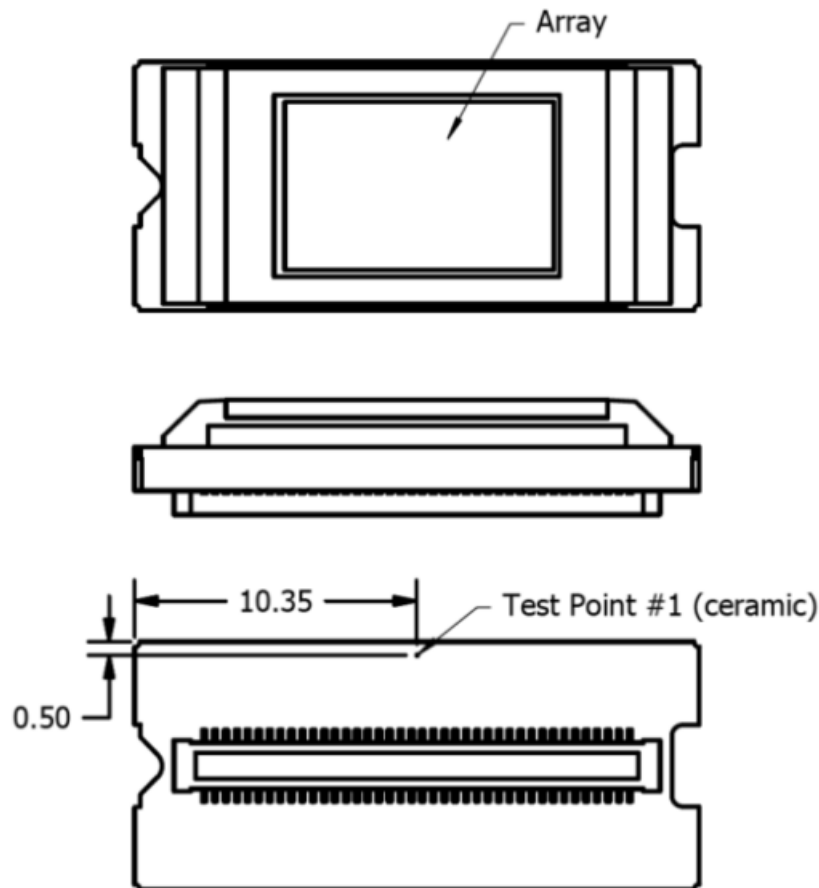
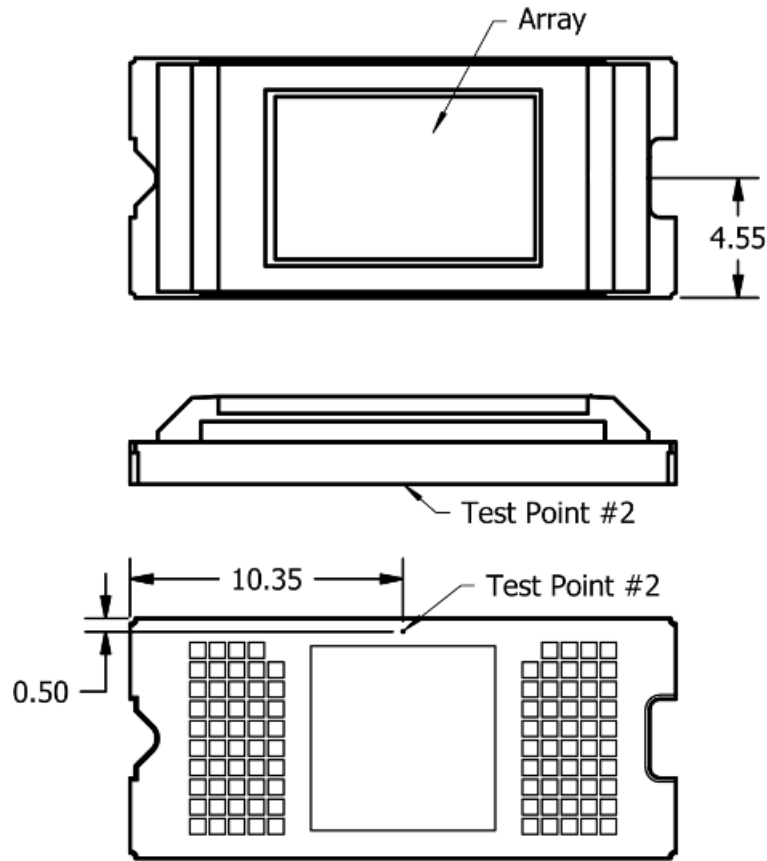

Figure 16. Thermal Test Point Location for FQE
Figure 17. Thermal Test Point Location for FQD
The DMD is designed to conduct the absorbed and dissipated heat back to the Series FQE or FQD package where it can be removed by an appropriate system thermal management. The system thermal management must be capable of maintaining the package within the specified operational temperatures at the Thermal Test Point location, see Figure 16 or Figure 17. The total heat load on the DMD is typically driven by the incident light absorbed by the active area; although other contributions can include light energy absorbed by the window aperture, electrical power dissipation of the array, and/or parasitic heating.
The temperature of the DMD case can be measured directly. For consistency, a thermal test point location is defined, as shown in Figure 16 and Figure 17.
- Thermal test point location (See Test Point #1 in Figure 16 for FQE and Test Point #2 in Figure 17 for FQD)
The relationship between the micromirror array and the reference ceramic temperature, Thermocouple Location (Test Point #1 in Figure 16 for FQE and Test Point #2 in Figure 17 for FQD), is provided by the following equations: